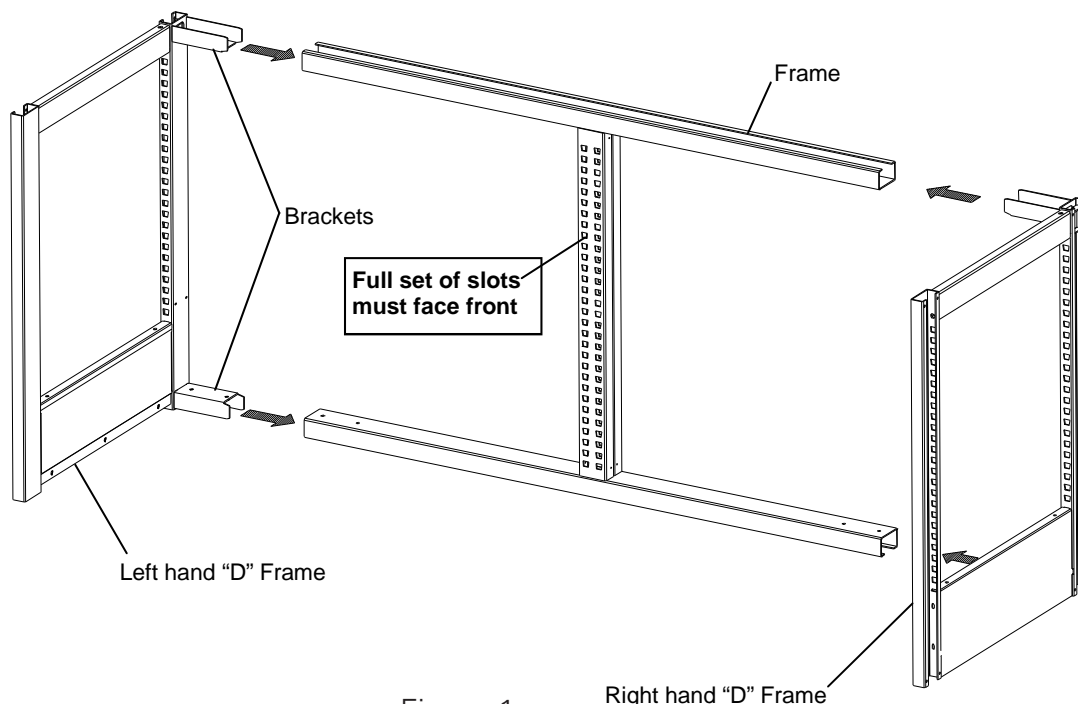

Figure 1.
1. Slide the brackets on the left hand and right hand "D" Frames into the Frame as shown in figure 1.
NOTE: The Frame has a **full set of slots** in the front and a **partial set of slots** in the back. The **full set of slots** must face the **front** of the unit. See figure 1.